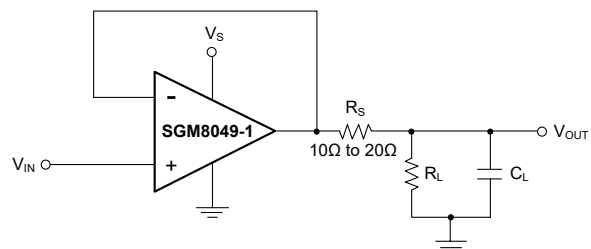

Figure 3. Series Resistor in Unity-Gain Buffer Configuration Improves Capacitive Load Drive
Follow configurations with load capacitance in excess of 30pF can produce extra overshoot and ringing in the output signal. Increasing the gain enhances the ability of the amplifier to drive greater capacitive loads. In unity-gain configurations, capacitive load drive can be improved by inserting a small (10 Ω to 20 Ω) resistor, R_S , in series with the output, as shown in Figure 3. This resistor significantly reduces ringing while maintaining direct current (DC) performance for purely capacitive loads. However, if there is a resistive load in parallel with the capacitive load, a voltage divider is created, introducing a DC error at the output and slightly reducing the output swing. The error introduced is proportional to the ratio R_S/R_L , and is generally negligible.